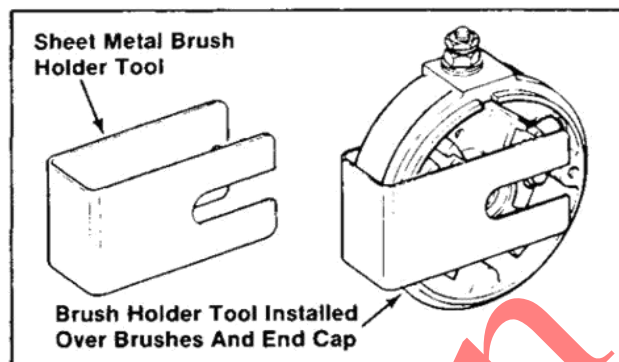

Figure 8-17. Brush Holder Tool.
NOTE: Use a brush holder tool to keep the brushes in the pockets. A brush holder tool can easily be made from thin sheet metal. Refer to Figure 8-17.
3. Install the brush holder tool to keep the brushes in the pockets of commutator end cap. Refer to Figure 8-17.